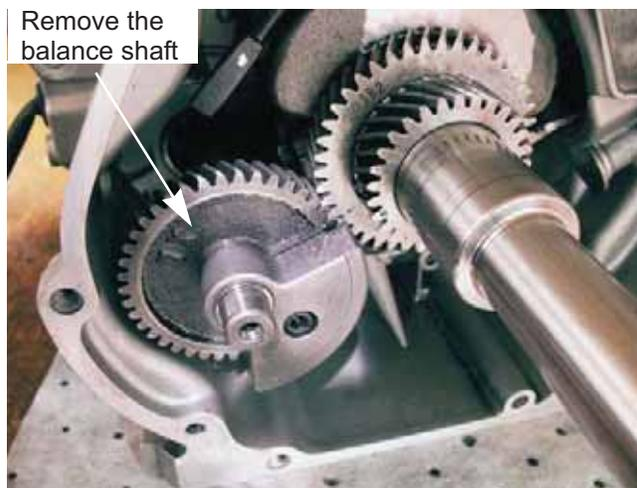

Figure 10.2
13. Remove the balance shaft. See Figure 10.2.